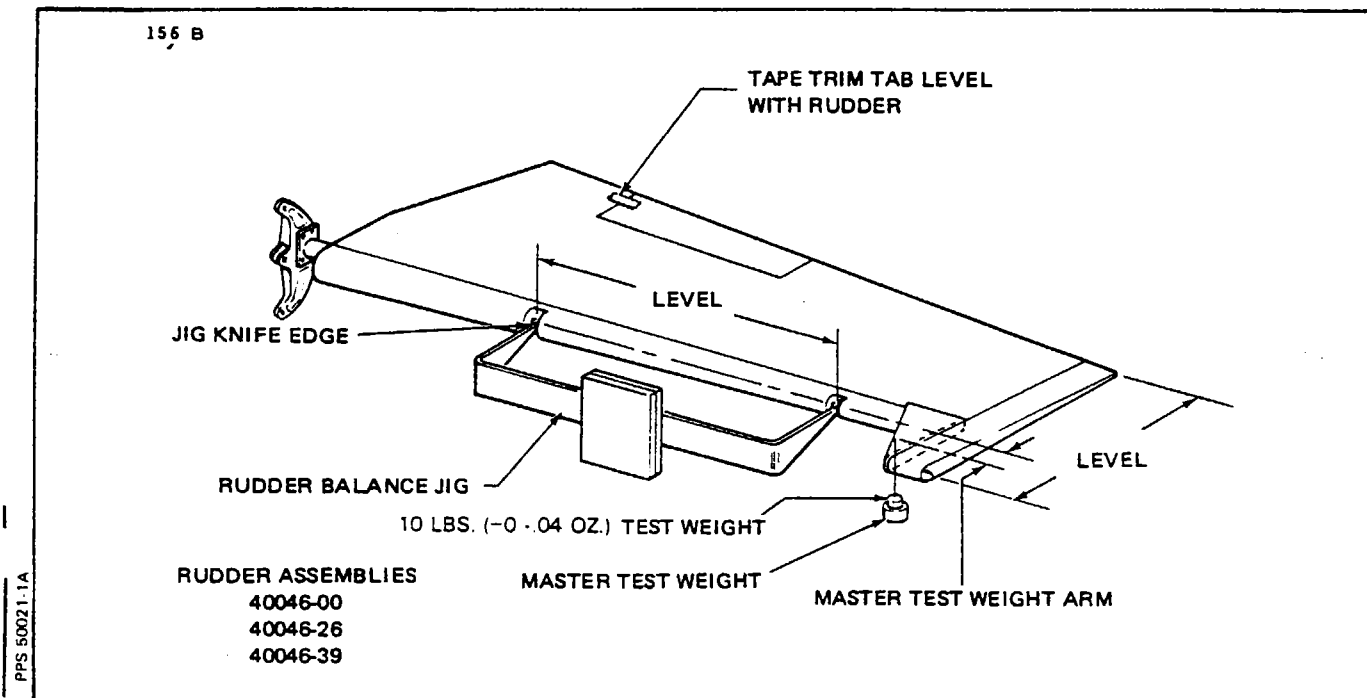

Figure 4-21. Rudder Balancing
4-92. RUDDER BALANCING PROCEDURE. (Refer to Figure 4-21.)
- c. Fabricate a master test weight per specifications given in Table IV-I and hang it in the existing tool hole in the rudder counterbalance channel. Ascertain that the tool hole is located to provide the proper master test weight arm as shown in Figure 4-21, defined in Paragraph 4-87 and specified in Table IV-I.